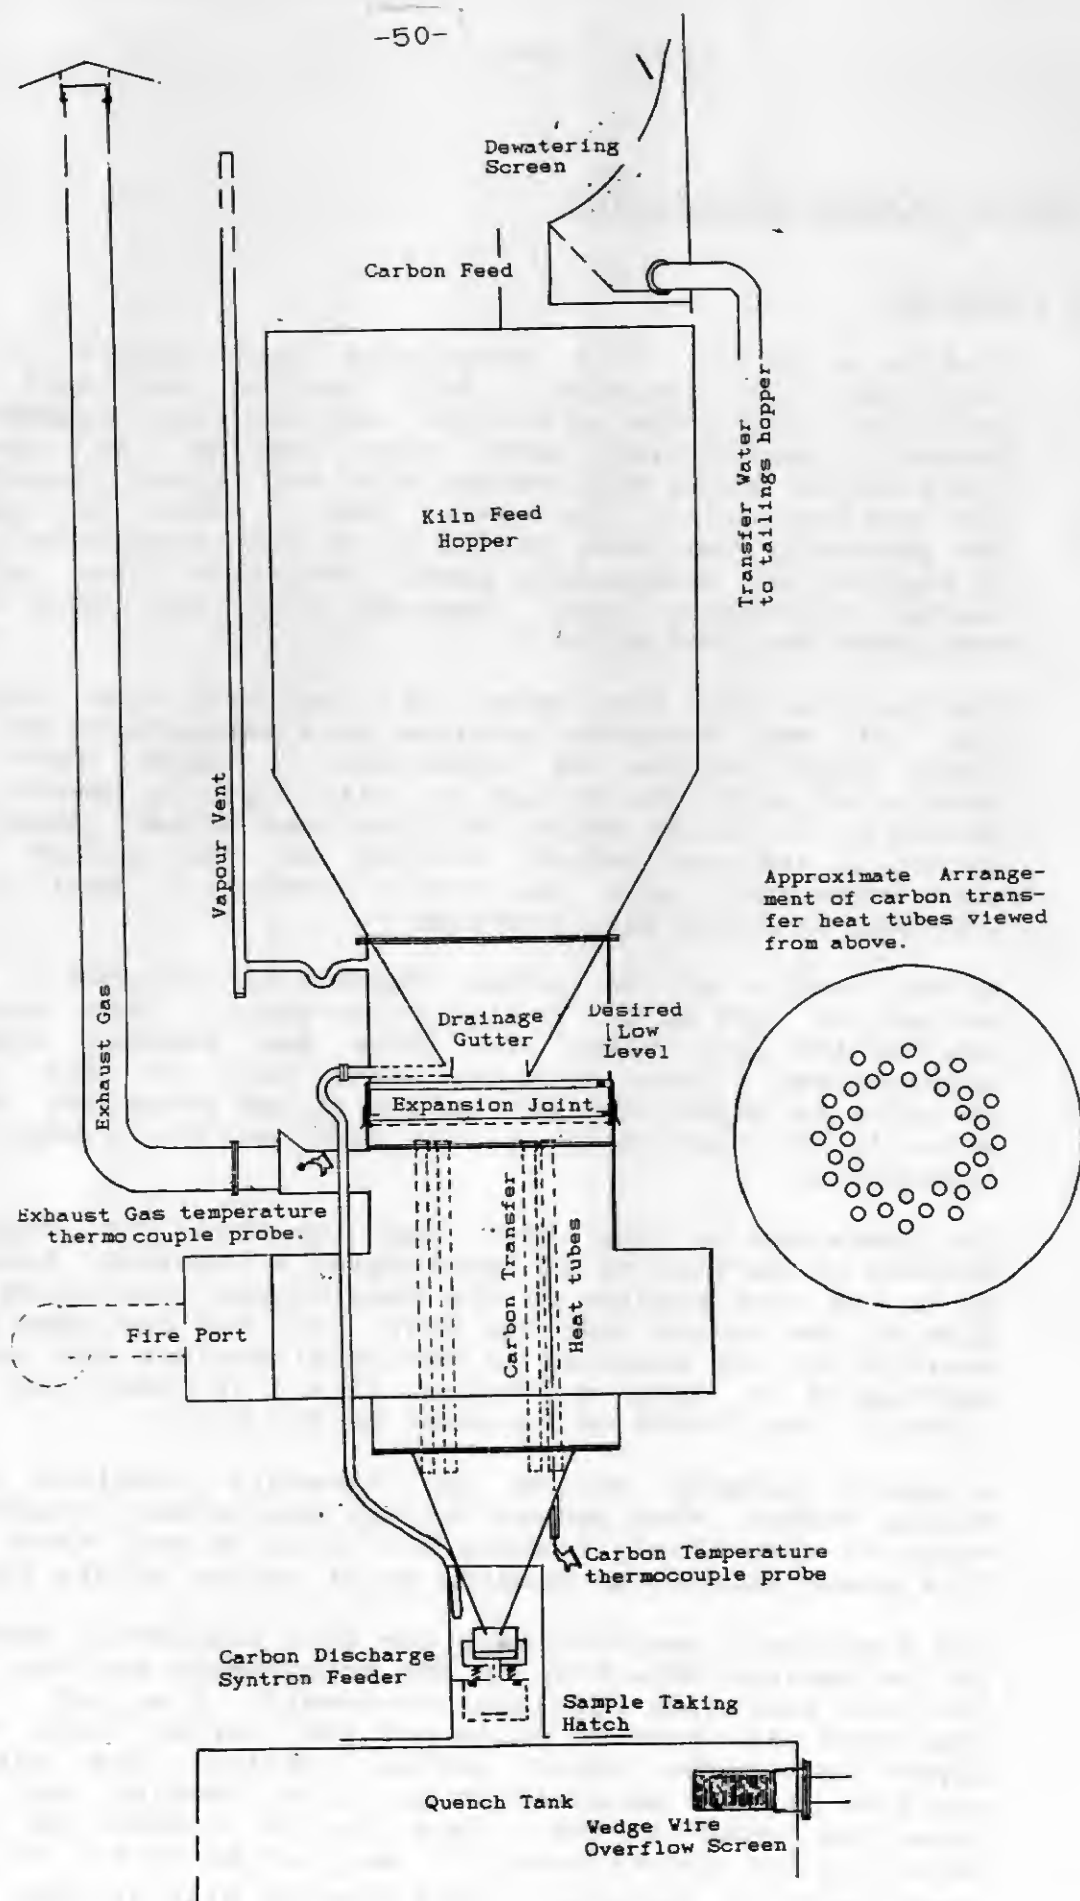

Fig. 19 The Carbon Regeneration Kiln
The Granites Gold Mine opted for a vertical type kiln. (See fig. 19) Many teething problems were encountered during its first eight months of operation. These were mainly associated with such things as, difficulty in dewatering the carbon prior to its entry into the feed hopper, hanging up of carbon in the feed hopper, fouling of the carbon transfer heat tubes and poor electronic control. Most of these problems have now been overcome.
- f. Do not let the kiln run empty as it is necessary to have carbon in the tubes for the next start up. The regeneration should be stopped when the carbon in the feed hopper is just above the drainage gutter. (See fig. 19) It is not advisable to leave the cone section covered with carbon as this may result in a build up on the metal surface and subsequent impediment of carbon flow into the kiln. It is hoped to have a low level cut out fitted to the kiln feed hopper soon.